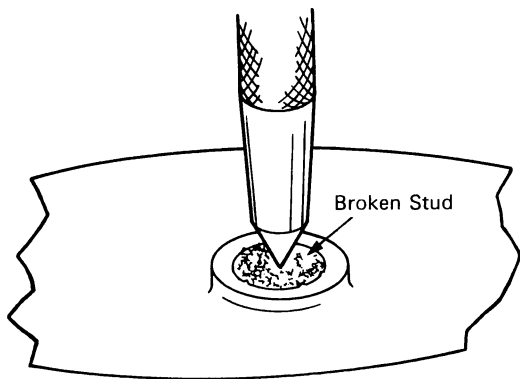

Fig. 23-5 Center punching a broken stud
4. Insert a hardened stud remover in the hole. (See Fig. 3-14.) Tap it lightly with a soft hammer. Turn the stud, remove counter-clockwise. The stud is supposed to come out (Figs. 23-5, 23-6, 23-7, 23-8).